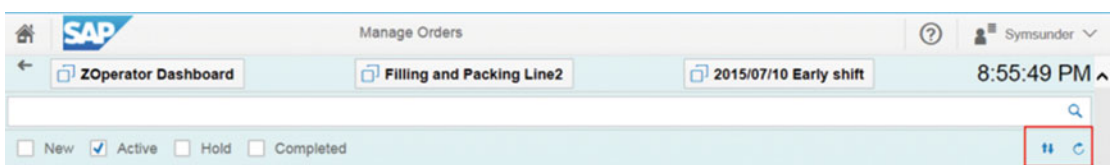

Figure 6-16. OEE dashboard/manage orders: sort and refresh
- Sort and refresh the orders. Refer to Figure 6-16.